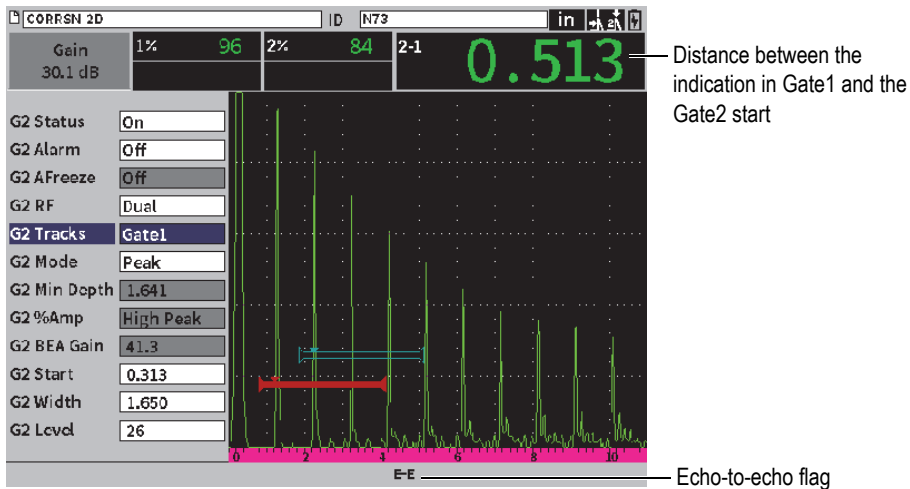

Figure 7-7 Echo-to-echo measurement example
5. Select the **Gate2** icon () and then set **G2 Status** to **On** (see Figure 7-7 on page 80).